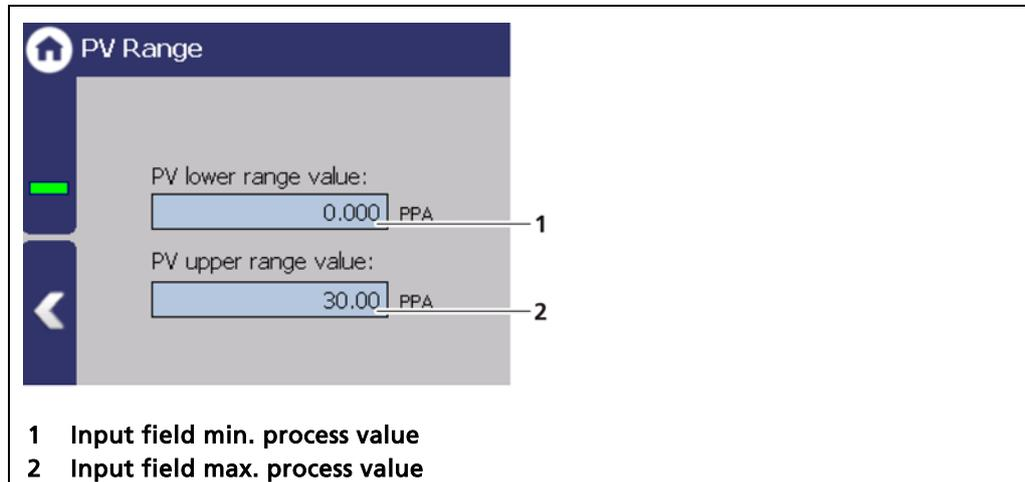

Fig. 86 Signal processing (PV Range)
1. Click on the input box (Fig. 86, item 1) to enter the process value that is intended to correspond to an output current of 0/4mA.
3. Click on the input box (Fig. 86, item 2) to enter the process value that is intended to correspond to an output current of 20mA.